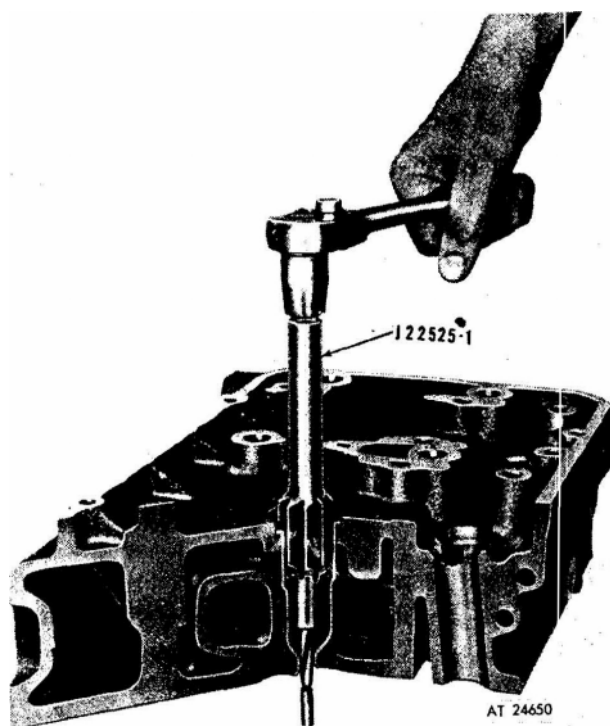
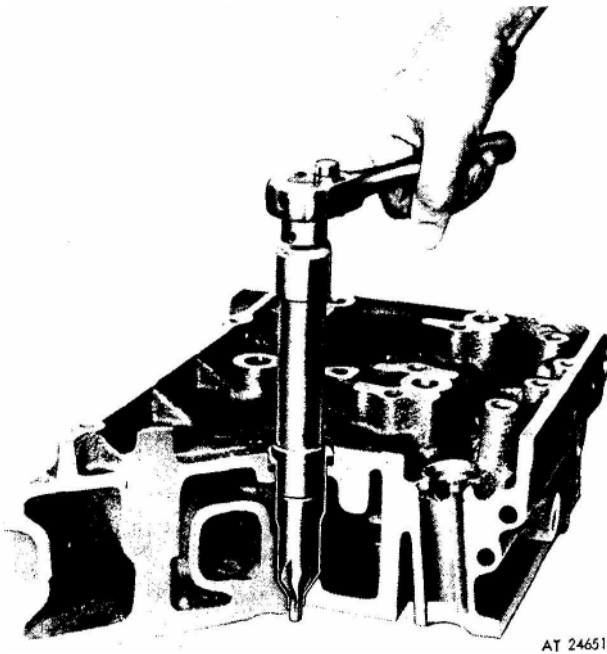

Figure 4. Reaming injector tube for injector body and spray tip with reamer J 22525-1.
Figure 5. Reaming injector tube for injector nut with reamer J 5286-9.
After an injector tube has been installed in a cylinder head, it must be finished in three operations: First, hand reamed, as shown in figure 4, to receive injector body nut and spray tip; second, *spot-faced* to remove excess stock at the lower end of injector tube; and third, hand reamed, as shown in figure 5, to provide a good seating surface for the bevel or the lower end of the injector nut. Reaming must be done carefully and without
b. Turn the reamer in a clockwise direction, (withdrawing reamer frequently for removal of chips) until the lower shoulder of the reamer contacts the injector tube. See figure 4. Clean out all chips.